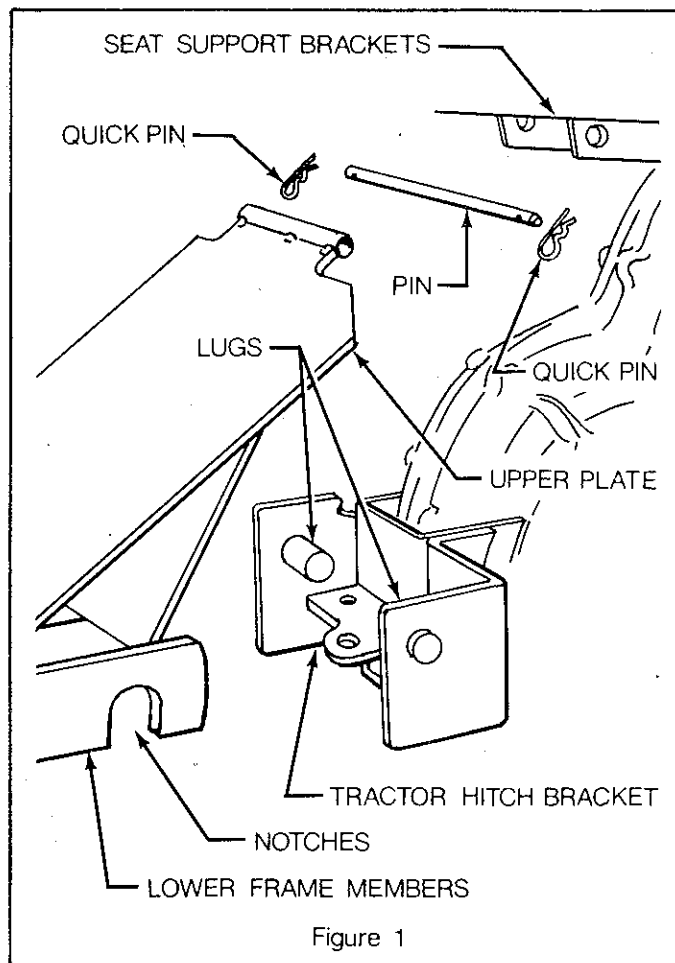

Figure 1
1. Mount the frame assembly to the tractor hitch bracket. Hook the lower members of the frame assembly over the lugs on the tractor hitch bracket first, then position the frame assembly so that the pin will slide through the holes in the seatdeck braces and the sleeve on the upper plate of the frame assembly. Secure the pin with a quick pin through each end (Figure 1).